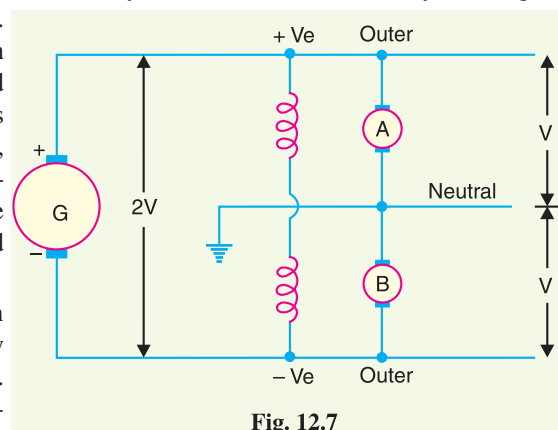

Fig. 12.7
- (iii) **Balancer set.** The 3-wire system can be obtained from 2-wire d.c. system by the use of balancer set as shown in Fig. 12.7. G is the main 2-wire d.c. gen-